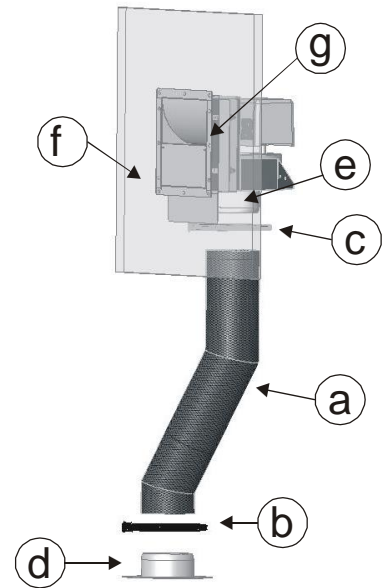

Figure 1– Hose connection
Before installing the natural or forced ventilation COMFORT AIR kit, make sure you have the following material available (fig.1):
1. **For natural ventilation:** connect the hoses (a) and the flanges (d)  $\varnothing 150$  to the connections on the upper part of the stove unit (fig.1).